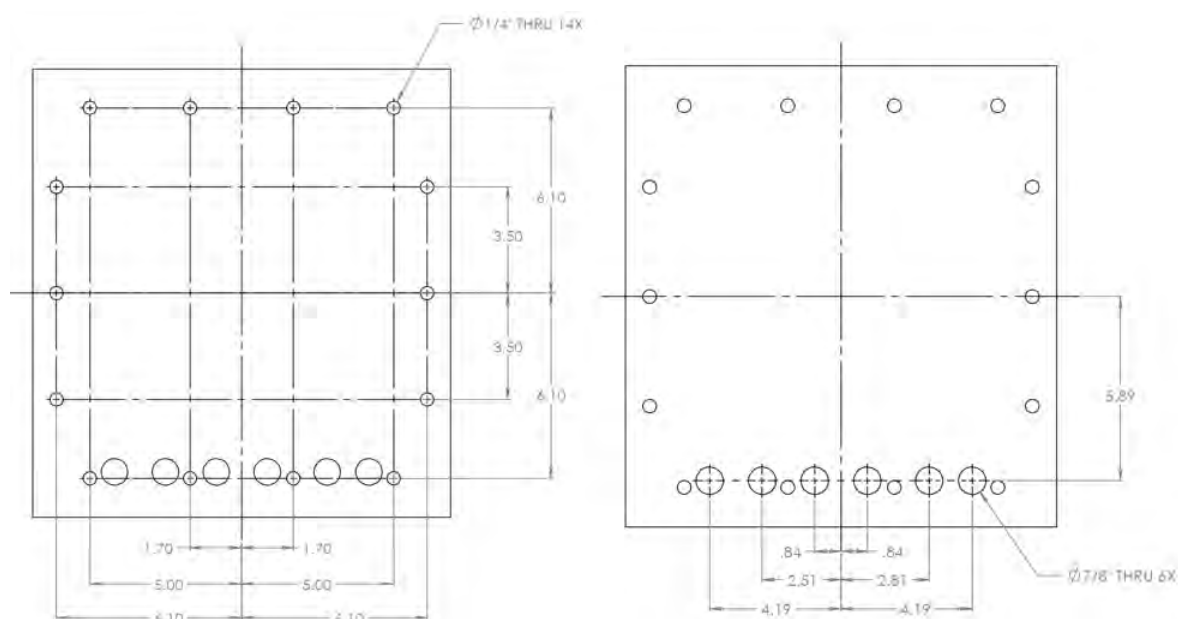

Figure 21: Hole Specification for Panel Mount
1. Pre-drill fourteen 1/4 dia. holes for mounting as seen in Figure 21 or use the drill template molded into the case after inserting the instrument into the panel.